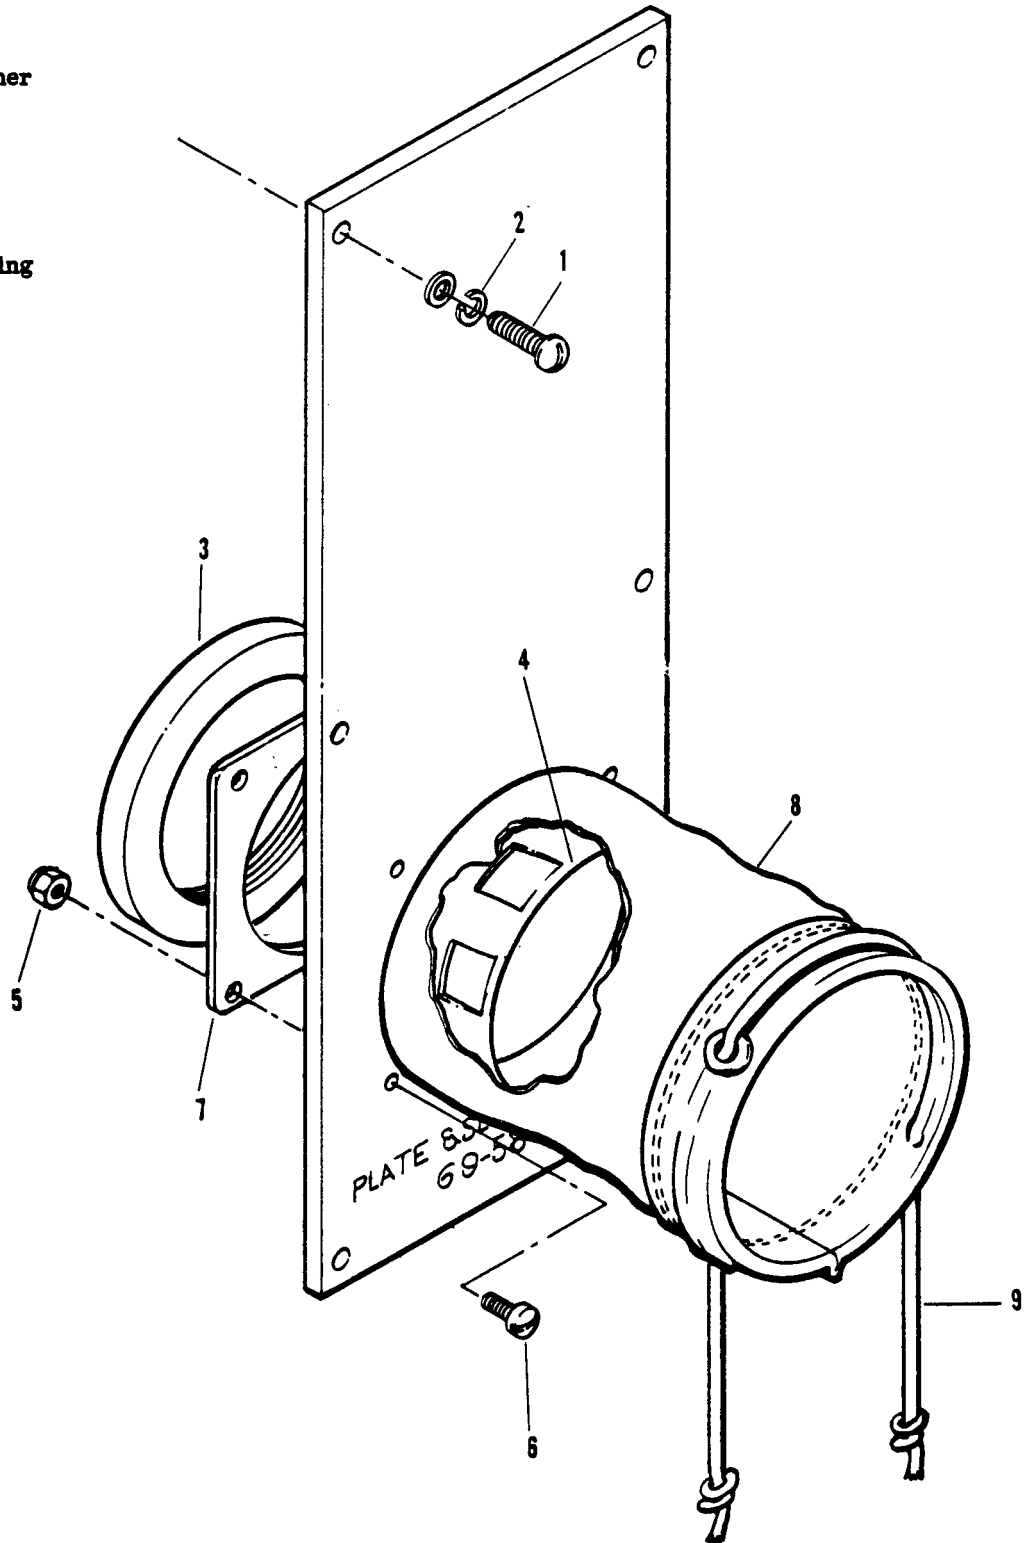

Figure 3-47. Plate and Sleeve Assembly, Exploded View
- (1) Remove screws (1, figure 3-47) and lockwashers (2) to remove plate and sleeve assembly.
- (2) Remove ring (3) and bushing (4); then remove nuts (5), screws (6) and retainer (7) to remove sleeve (8) with draw string (9) from plate (10).